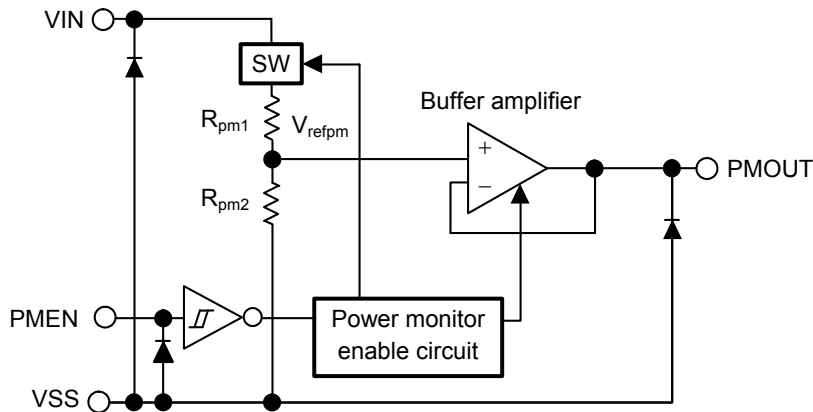

Figure 7
**Figure 7** shows the block diagram of the power monitor block to describe basic operation.